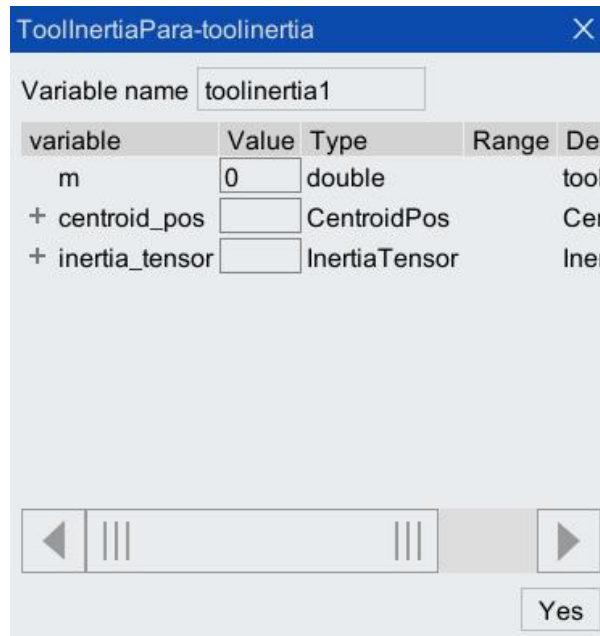

Figure 5-43 "Tool Load Inertia" parameter list
Step2. Click <...> button on the right side to pop up "ToolInertiaPara-ToolInertia" parameter list, as shown in Figure 5-43. The variable m represents the tool mass, centroid_pos represents the position of centroid, centroid_dir represents the direction of the inertia main axis, and moment_inertia represents the main moment of inertia. After setting according to the actual needs, click <Yes> button.